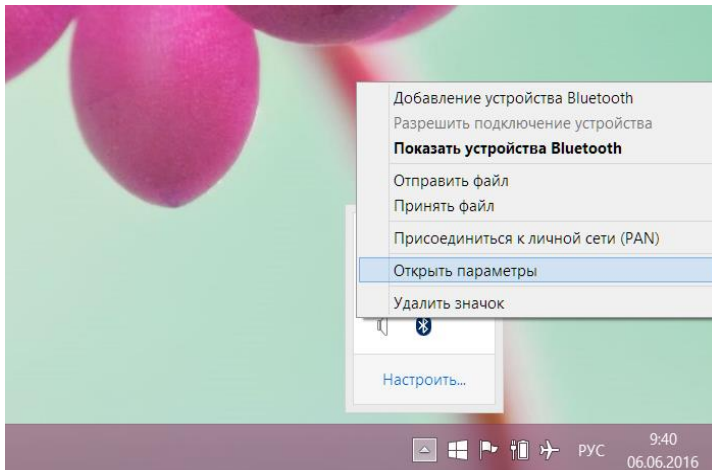

Figure 1: Bluetooth Menu in Windows 7-10
- in the appeared context menu select item "Open parameters" (see Figure 1);